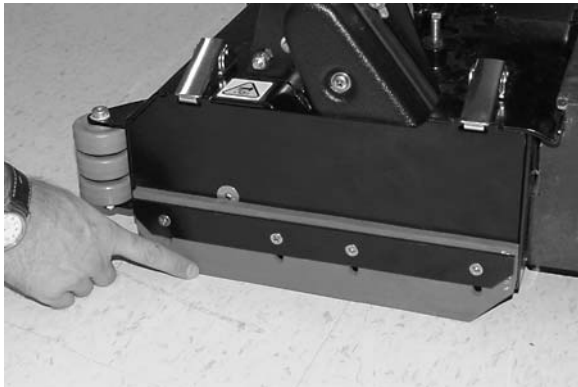

FIG. 38
6. Check scrub head skirts for wear and adjustment. Skirts should touch floor, adjust if necessary (Figure 38). Replace if damaged.